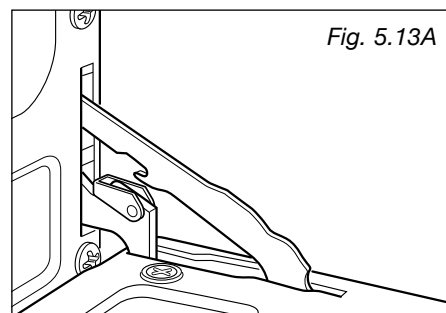

Fig. 5.13A
- Open the door to the full extent (fig. 5.13A).